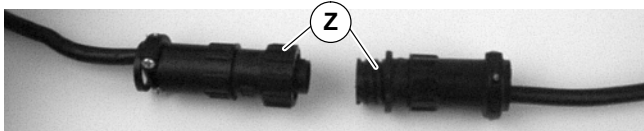

Figure 12
3. For DC variable speed motor, unplug motor cord at disconnect (Z of Figure 12).